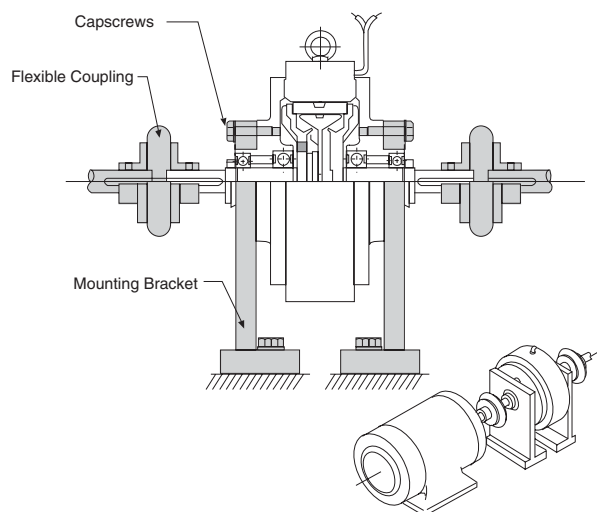
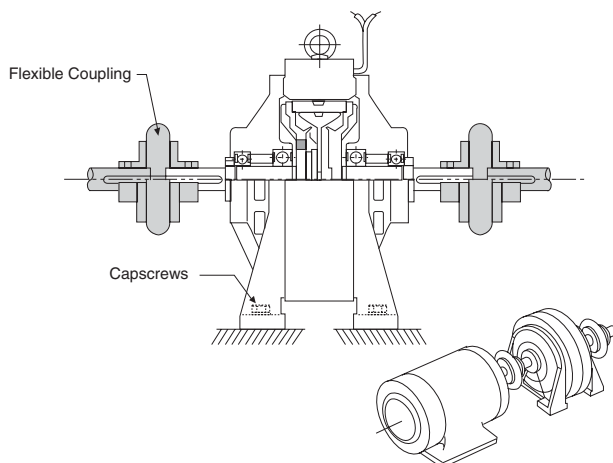
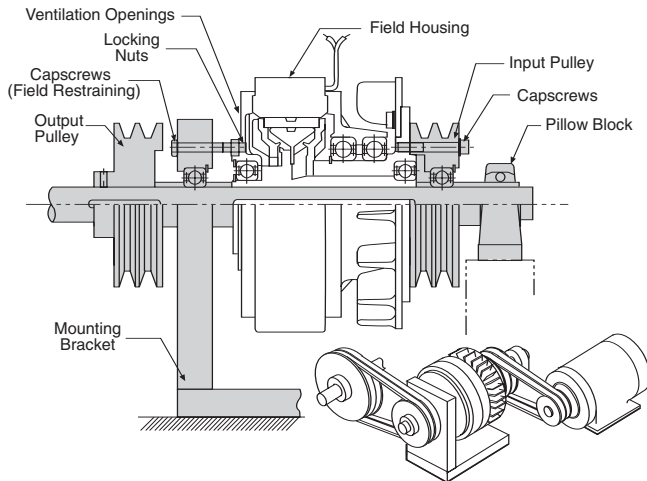

Figure 1\*
Figure 2\*
Figure 3\*
Verify the model of your clutch or brake by checking the label before proceeding with these instructions. POC and PHC-R designate clutch models and POB and PTB are brakes. All models of POC clutches are face mounted (except size 80, which is foot mounted) and have male input and output shafts. See Figures 1 and 2. The PHC-R clutch is designed to be shaft mounted and is ideal for "parallel shaft" applications. It has a hollow bore and slides on the output shaft. An input hub with flange is provided for mounting a pulley or sprocket. An integral fan rotates with the input for additional cooling. See Figure 3.
Mount the clutch to a vertical surface, using customer supplied fasteners. For models larger than size 5, the housing must be secured on both input and output sides. See Figure 1. A flat horizontal mounting surface is required for foot mounted size 80 clutches. See Figure 2.
The field can be restrained with a holding arm attached to the tapped holes in the field housing or with capscrews through a mounting bracket as shown in Figure 3. If bolts are used, first hand tighten the bolt just enough to take out the clearance under the head of the capscrew. Then tighten the locking nut while preventing the bolt from turning.
**Note:** If a pulley or sprocket is to be attached directly to the input hub, bearings should be installed to support the pulley or sprocket as shown in Figure 3.